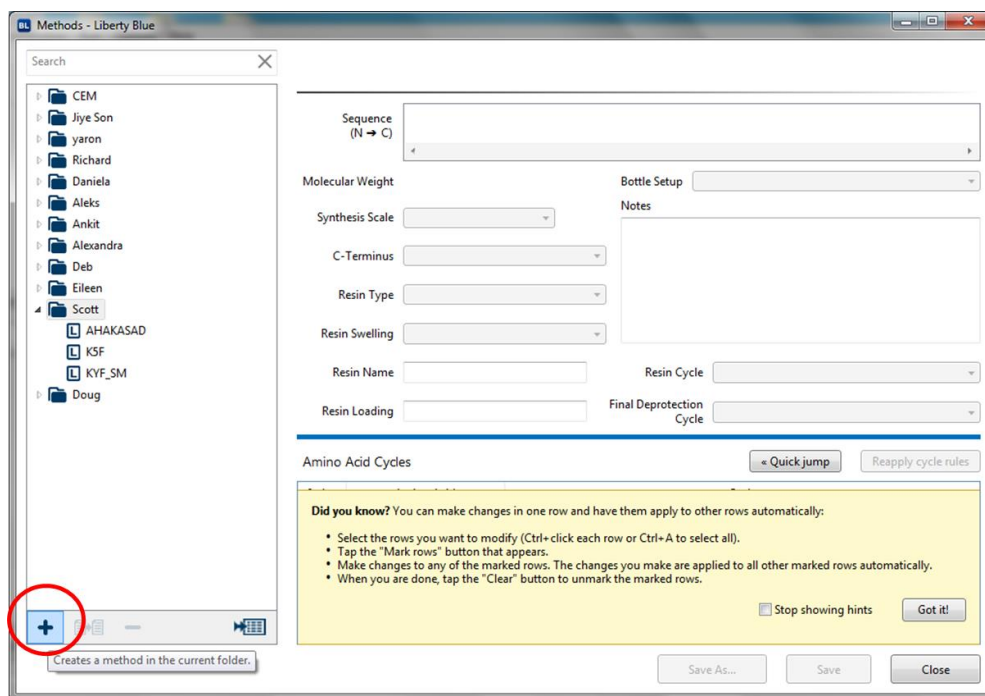

Figure 6. Click the + to create a new peptide sequence
6. Click the + button to create a new method (i.e. a new peptide sequence) (Figure 6)